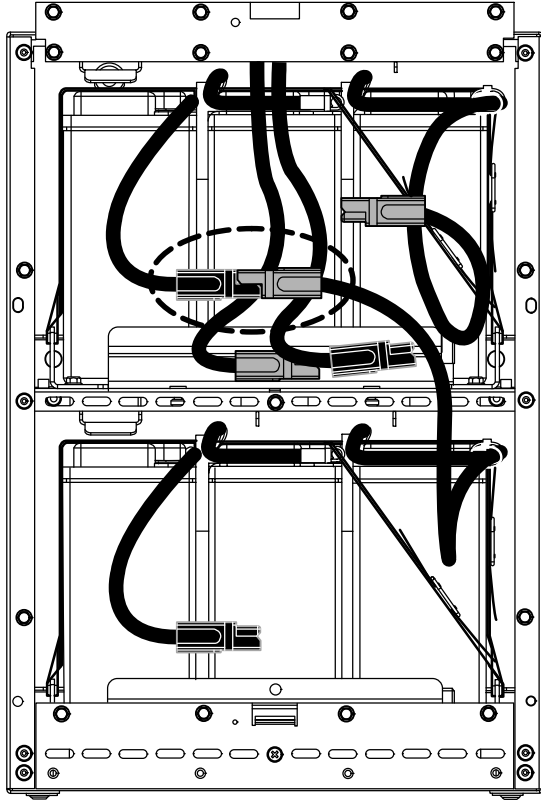

Figure 48. Connecting the Battery Trays
20. Connect the two battery trays together by connecting the black connector from the top tray to the red connector from the bottom tray. See Figure 48.